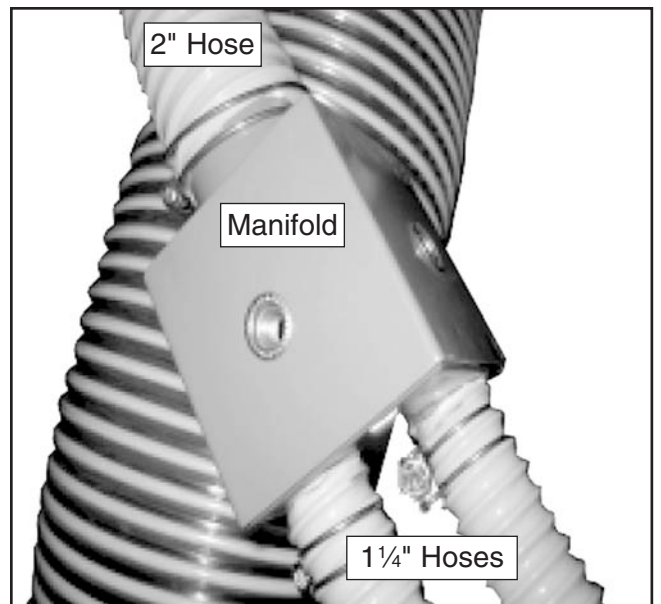

Figure 40. Vacuum hoses attached to the vacuum manifold.
50. Use the 2" hose clamps to attach one end of the 2" x 39" vacuum hose to the cyclone vacuum port and the other end to the vacuum manifold (see **Figure 40**).
51. Connect the vacuum hoses between the vacuum manifold and the collection drum vacuum ports with (4) 1 1/4" hose clamps (see **Figure 40–41**).